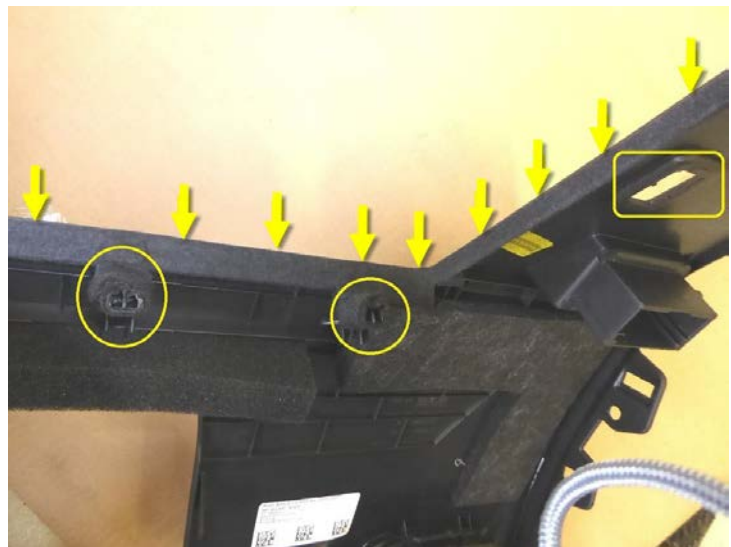

Figure 3. Additional areas of contact for fleece tape application.
2. Apply tape to the edges of the opening of the instrument panel cover as shown in the illustration (Figure 3). Ensure that none of the fleece tape will be visible after the panel is reinstalled.